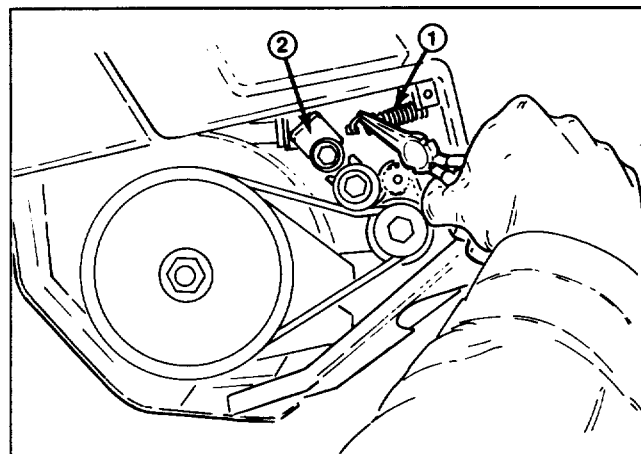

Figure 15
2. Remove idler spring from idler arm (Fig. 15).